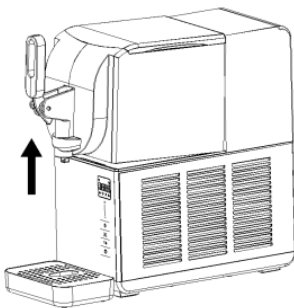
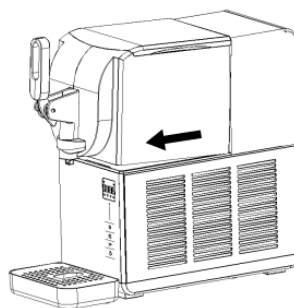

Fig.4
Fig.5
2. Push upwards at the faucet position, release the hook of the loading barrel (as shown in Figure 4), and then remove the loading barrel from the front (as shown in Figure 5) to remove the loading barrel assembly. After removing the loading barrel assembly, there is a small amount of residual liquid, which should be wiped clean with a towel.